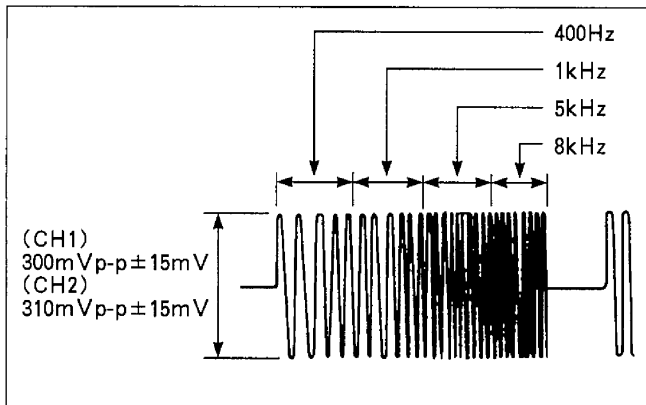

Figure E49
1. Connect a scope to TP40005 (CH1) and TP40007 (CH2), and adjust VR40003 (CH1) and VR40008 (CH2) so that the levels become 300mVp-p \pm 15mVp-p (CH1) and 310mVp-p \pm 15mVp-p (CH2) as shown in Figure E49.